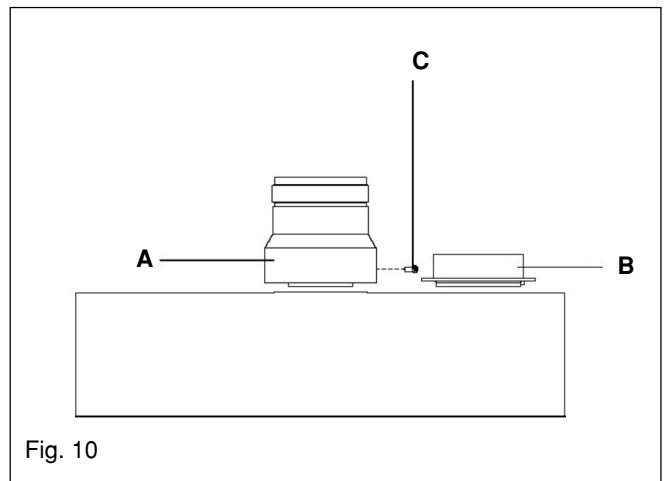

Fig. 10
4.5.3.1 INSTALLATION OF TWIN ADAPTOR KIT (see fig. 10 & 11)
- Insert the exhaust connection manifold (A) onto the appliance flue outlet.
- Remove the blanking plate (located to the right of the appliance flue outlet) and - using the same screws - install the air inlet plate (B).
- Using the hole in the exhaust connection manifold as a guide, drill a 3mm hole in the appliance flue spigot and secure the exhaust manifold connection to the flue spigot using the screw provided (C).